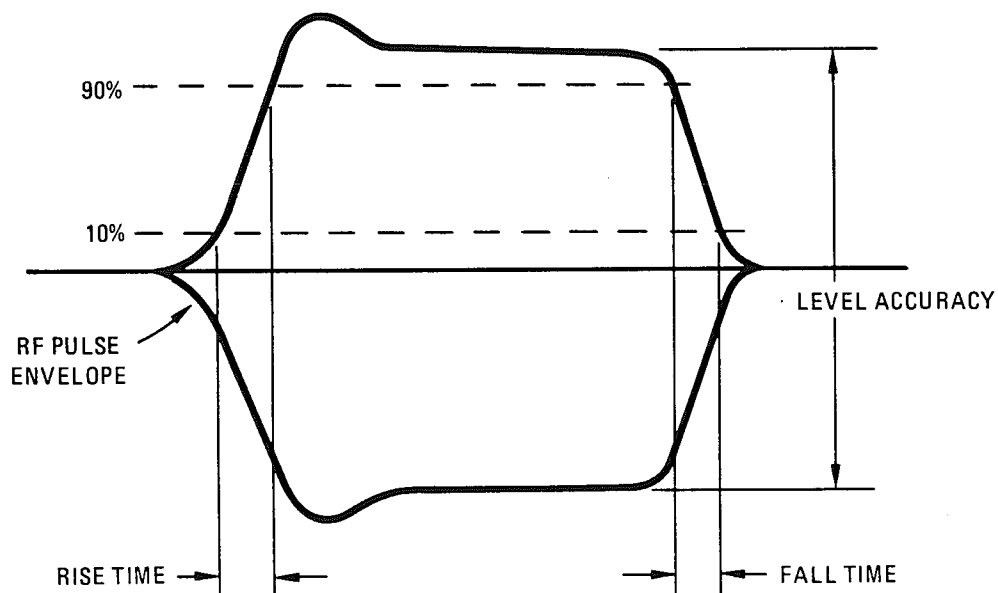

Figure 4-23. Pulse Measurements
3. Adjust oscilloscope to display the RF pulse envelope. Readjust the pulse width for 10  $\mu$ s (measured at 50% amplitude points) and measure the rise and fall times (see Figure 4-23). Both should be less than 9  $\mu$ s (measured between 10% and 90% of the full pulse amplitude).